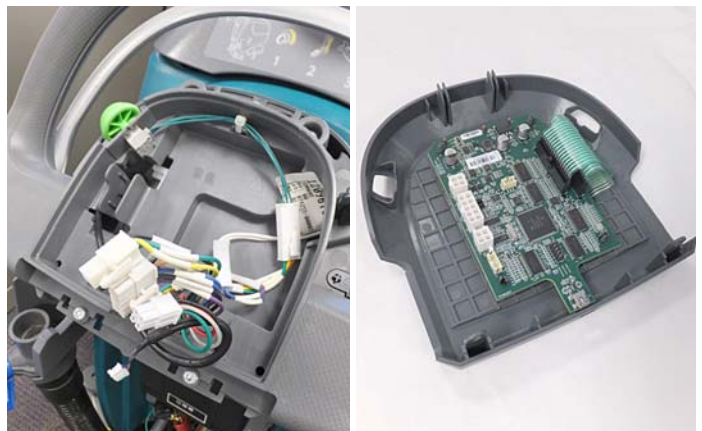

Fig. 3
4. Disconnect the electrical connections from the defective bezel assembly and discard bezel assembly (Figure 3).